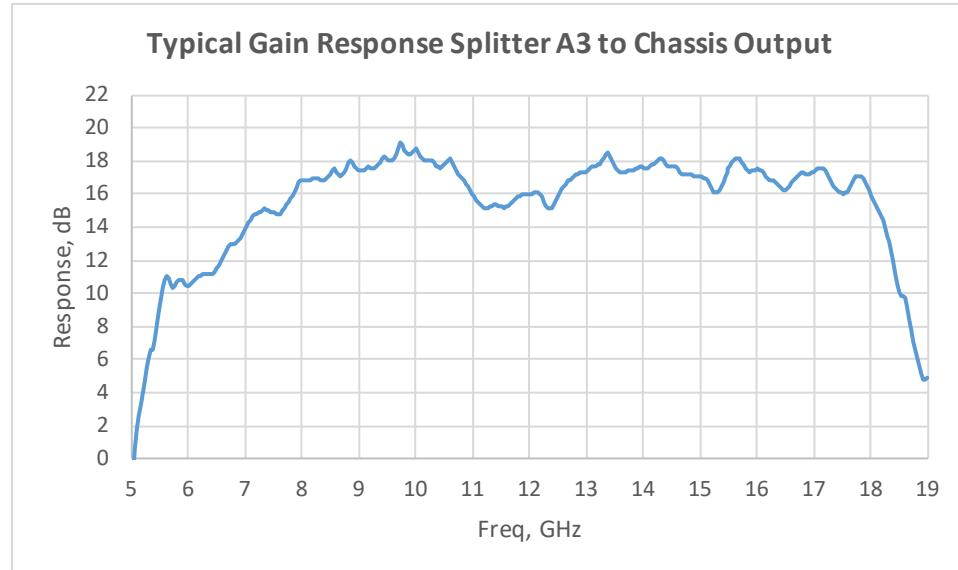

Figure 4-4. Typical Response: Input A3 – Splitter to RF Output Gain
NOTE: If the overall gain is low, the amplifier chain can be separated at the input of the A3 2-way splitter and the gain checked from the input of the A3 2-way splitter to the RF output connector on the unit. See Figure 4-4.
9. Remove the coaxial cable between the output of the A1A2 Driver Amp, the input of the A3 2-way splitter. The typical response from the input of the A3 2-way splitter to the RF output connector on the unit's front panel is shown in Figure 4-4.